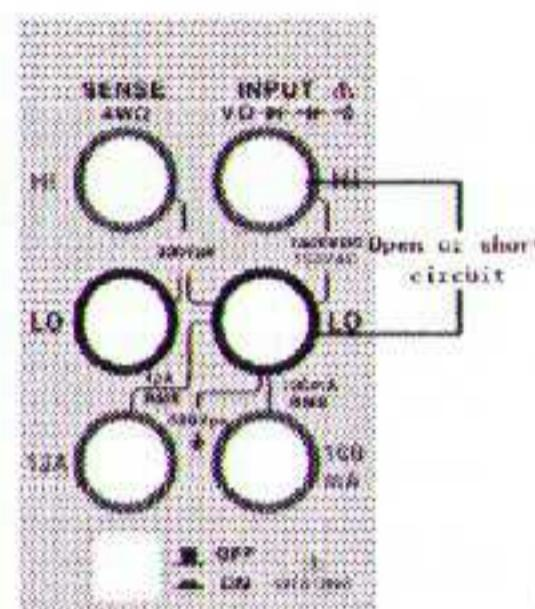

Figure 4-22 Wiring method
2. Connect the red and black test leads to the corresponding input terminals as shown in Figure 4-22.